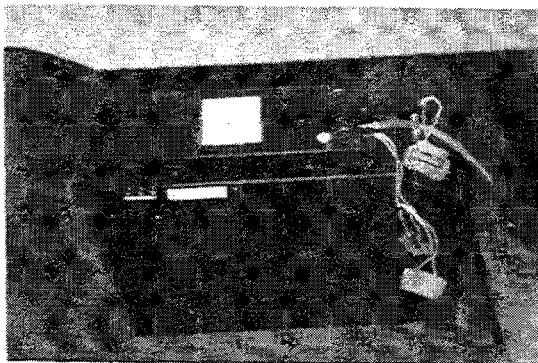

Figure 4
11. Attach interface box to rear of CD changer unit using three M2x5 bolts (Fig. 4).